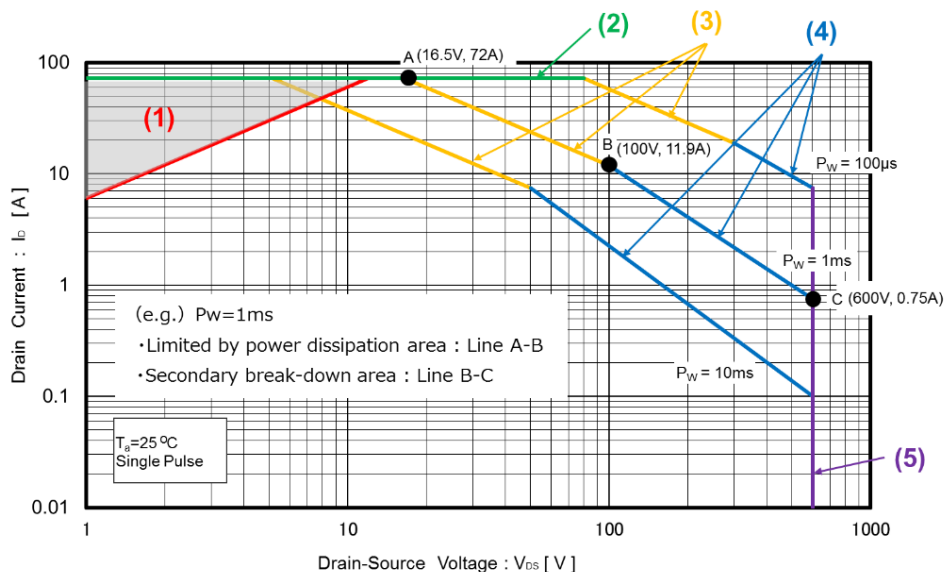

Figure 1. SOA of Super Junction MOSFET "R6024KNX"
The SOA of ROHM Super Junction MOSFET (SJ MOS) "R6024KNX" is shown in Figure 1. As shown in (1) to (5) of Figure 1, SOA can be classified into the following five areas.
(1) Limited by on-resistance area
Specifically, temperature derating is applied for the (3) thermal limiting area and (4) secondary breakdown area of Figure 1.
The thermal limited area before derating ($T_a=25^\circ\text{C}$) is defined by point A and B in Figure 1. From the voltage and current value at point B, the power dissipation at $T_a=25^\circ\text{C}$ is shown as: